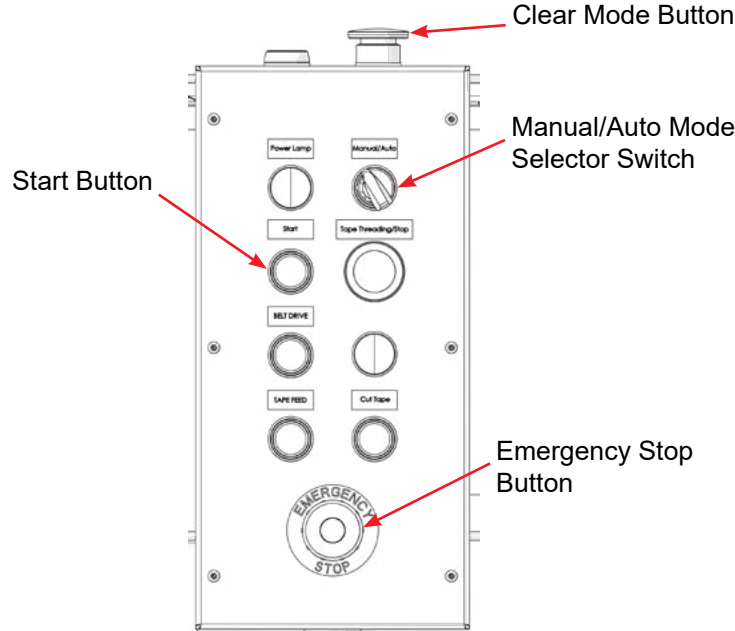

Figure 46: Operator Control Panel
2. Turn the control selector to Manual mode (refer to Figure 46).